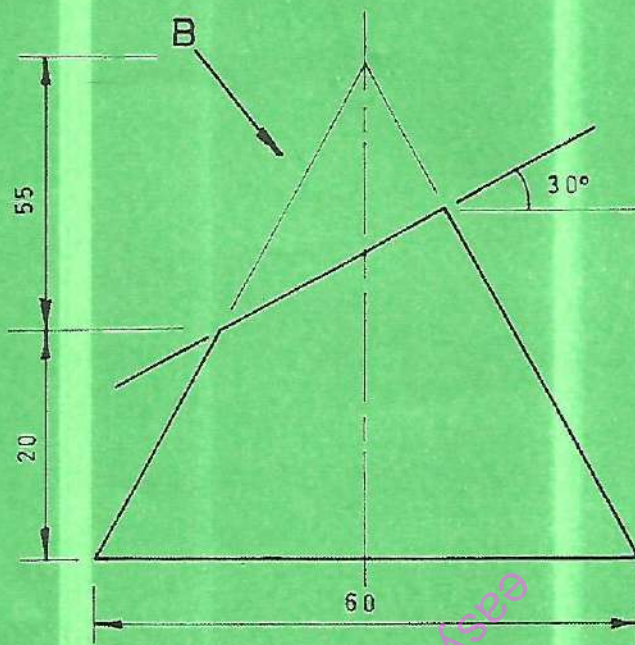

Fig.5
5. Figure 5 shows the front elevation of a truncated cone. Draw in 1st angle projection, full size, the following: